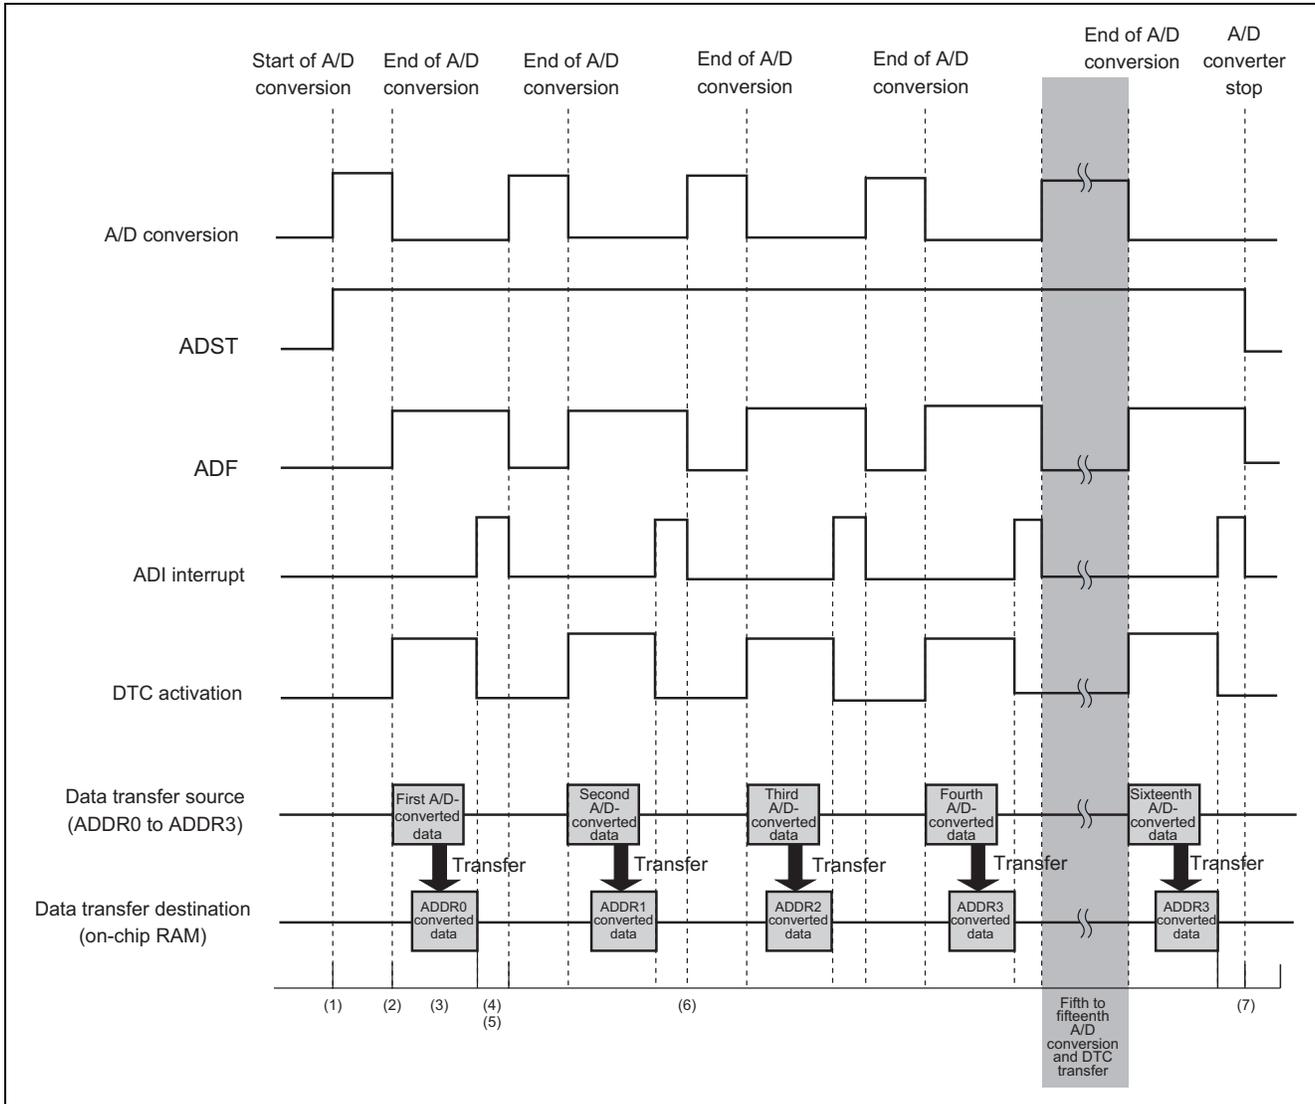

Figure 4 Timing of A/D Conversion and DTC Transfer
Figure 4 is a timing diagram for A/D conversion, DTC activation and data transfer. The processes are shown in table 3.
Firstly, the ADI interrupt is enabled, and then the ADST bit is set to 1 to start A/D conversion (figure 4, (1)). When the ADF bit is set to 1 automatically at the end of the A/D conversion, an ADI interrupt request is generated and the DTC is activated (figure 4, (2)). Even if an ADI interrupt request is generated, no interrupt occurs if the DTC is activated. Then, the DTC transfers A/D-converted data in ADDR0 to ADDR3 to the previously reserved area in RAM channel by channel for each completed conversion (figure 4, (3)). On completion of the data for each channel, the ADF bit is automatically cleared and an ADI interrupt is generated (figure 4, (4)). The A/D conversion in this sample application is performed in continuous scan mode. Therefore, the ADST bit is not automatically cleared. Since the settings for this sample application include clearing of DTCE bit for each DTC transfer, this bit is set to 1 after each of the first to fifteenth transfers (figure 4, (5)). Steps (2) to (5) are then repeated fourteen times without the ADST bit being manipulated (figure 4, (6)). For the last (sixteenth) DTC transfer, the DTCE bit is not set to 1 in the processing routine for the corresponding ADI interrupt and the ADST bit is cleared so that A/D converter stops (figure 4, (7)).